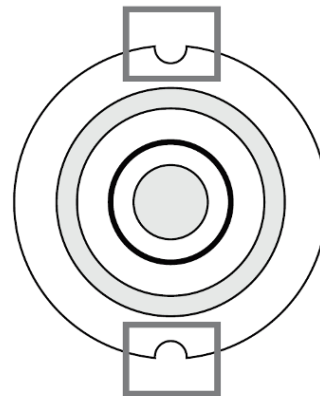

Figure 2.
- Locate ball joint index mark. This may take the form of a hole, dimple, tab, notch or arrow. **See Figure 2.**